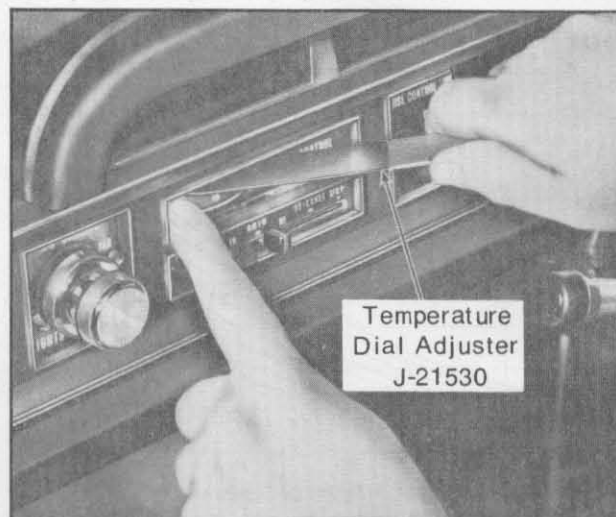

Fig. 1-105 Adjusting Temperature Dial
8. The temperature dial should be set at the temperature dial setting on the Tester panel. If it does not, use tool #J-21530 to hold the gear on the left side of the temperature dial and slip the temperature dial to the correct setting, Fig. 1-105. If the temperature dial cannot be calibrated using this procedure, it is defective.